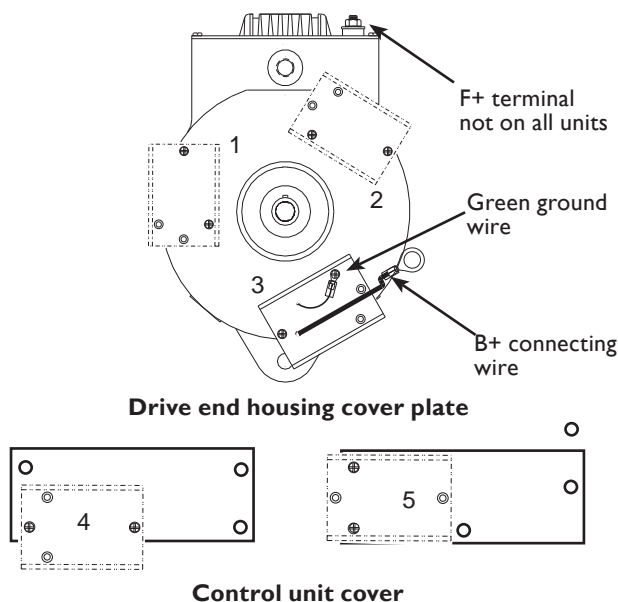

Figure 1 - Filter Assembly Location on Alternator (choose one of five locations)
- ⇒ For alternators with front housings that look like Figure 1: Choose location on alternator best suited for vehicle conditions to install filter assembly. B+ connecting wire as provided on unit is 12 inches long.
- 1) Remove and discard two short screws from selected location on alternator (see Figure 1).
- b. Secure green ground wire (see Figure 1, page 1) from unit to grounded surface, using one mounting hole in unit. Use second mounting hole to finish securing unit to mounting location.